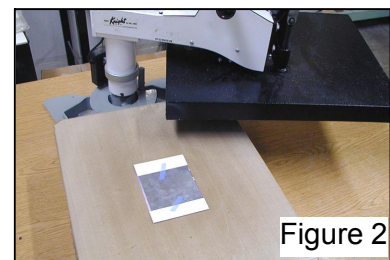

Figure 2
5. Place the aluminum/transfer face down on your press (transfer against the press bed). (Fig. 2)